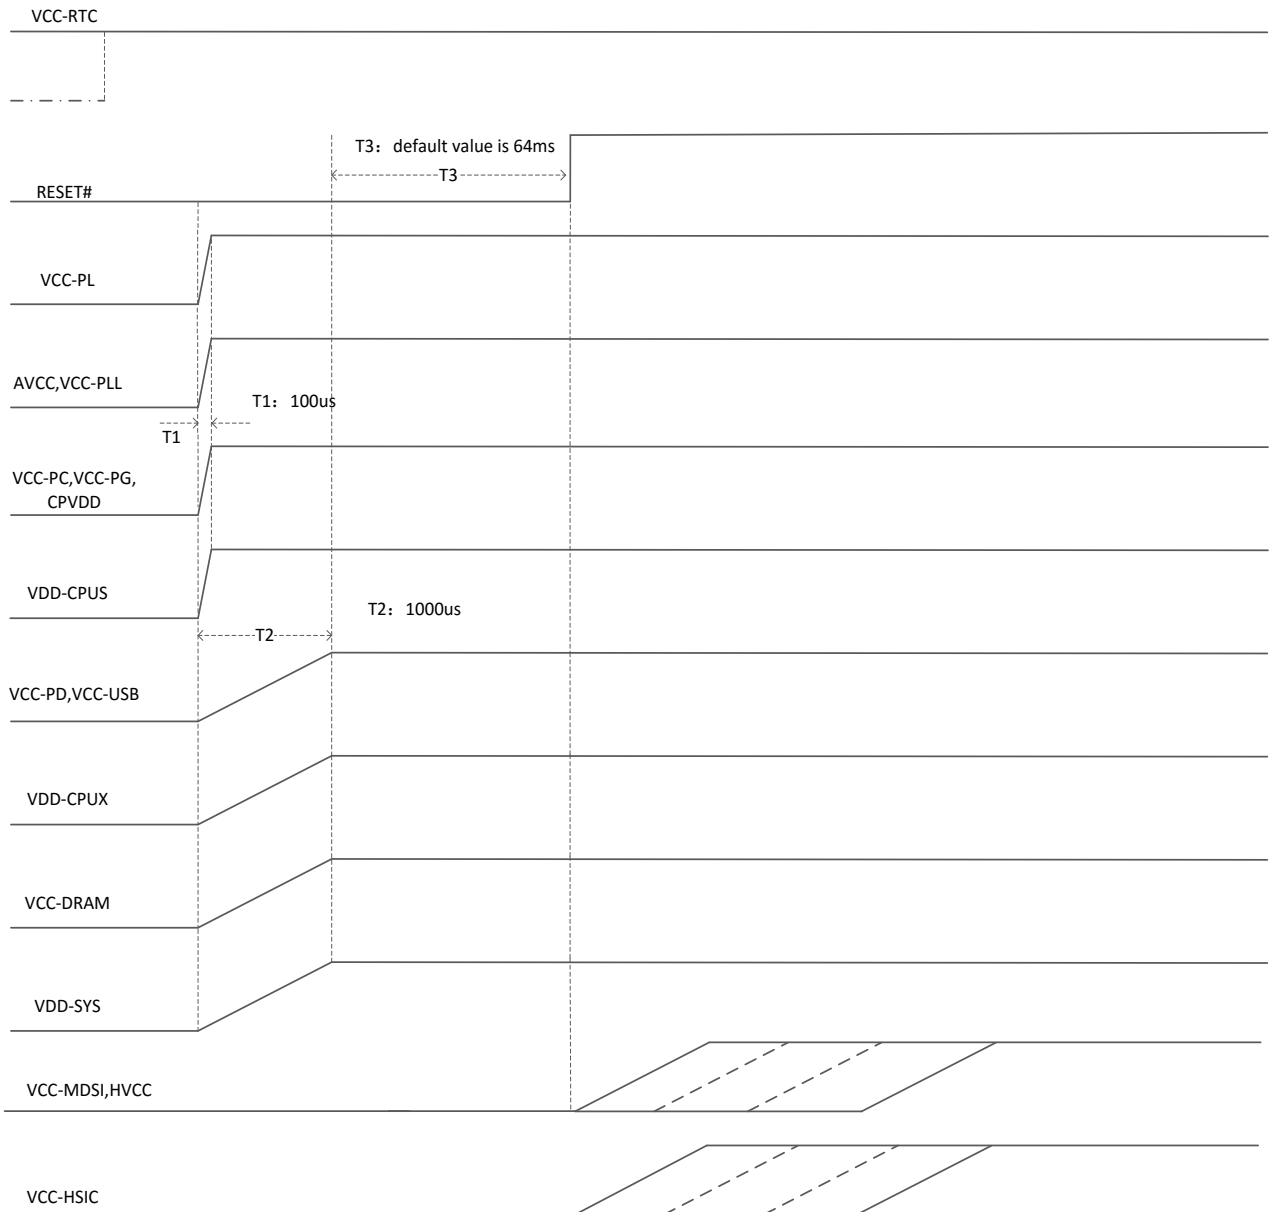

Figure 5-47. Power On Timing
- (1).When it is key,VCC-PL,AVCC,VCC-PL,VCC-PC,VCC-PG,CPVDD,VDD-CPUS,VCC-PD,VCC-USB,VDD-CPUX,VCC-DRAM, VDD-SYS are powered up simultaneously.
- (2). $T_1$  rise time is about 100us.
- (3). $T_2$  rise time is about 1000us.
- (4).VCC-MDSI,HVCC and VCC-HSIC are default to be powered off. When the some domains of PMIC are enabled , VCC-MDSI,HVCC and VCC-HSIC can be powered up.
**Figure 5-47** shows an example of the device power up sequence.